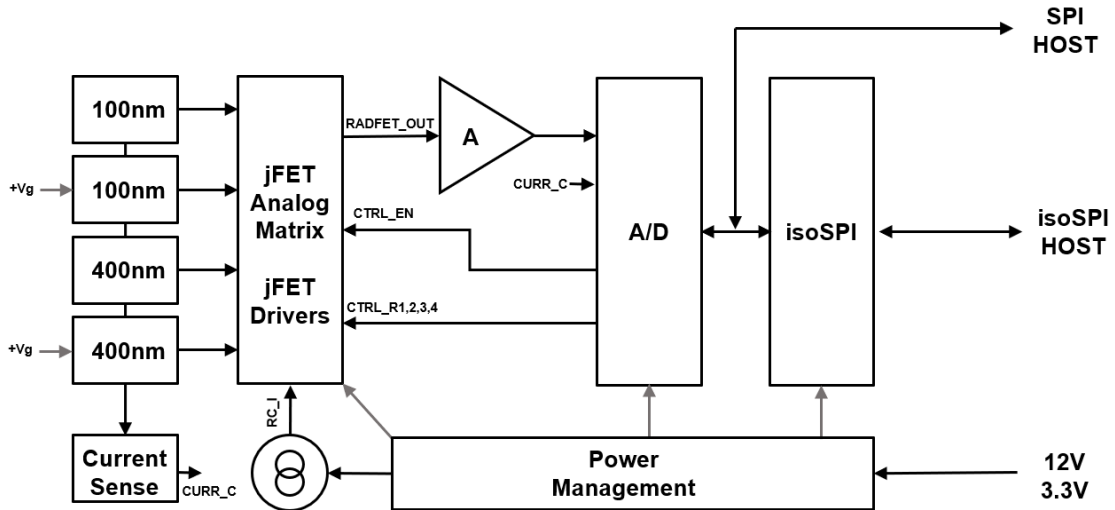

Figure 2: VT-DRM(S) schematic block diagram.
The schematic block diagram of the VT-DRM(S) module is shown in Figure 2.